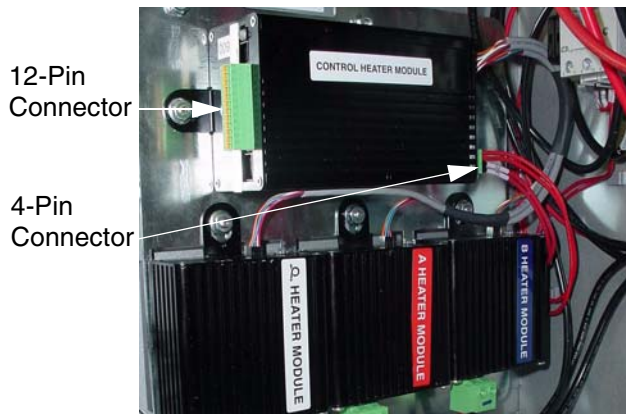

FIG. 20
1. Plug 4-pin green connector into heater control module. See FIG. 20